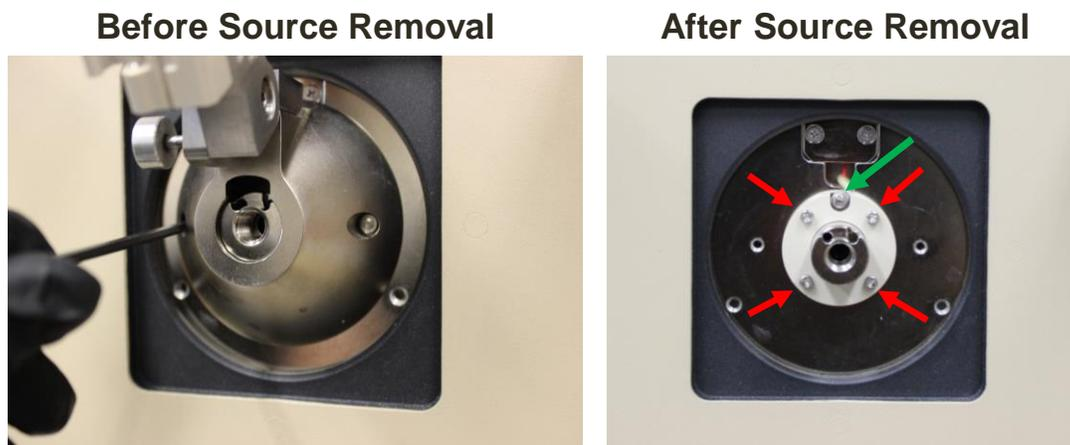

Figure 1.19 – Source Removal
6. Using a 7/64 in. Allen wrench, completely unscrew the bolts located on the left and right side of the interface and carefully remove the entire ESI/DESI source assembly (Figure 1.19).
7. After the ESI/DESI source has been removed, use a 3/32 in. Allen wrench to remove the bolt that secures the small red voltage wire, as depicted above by the green arrow (Figure 1.19).
8. Use the same wrench to remove the bolts that are arranged around the inlet of the AI-MS, as depicted above by the red arrows (Figure 1.19).
9. Once the four screws are removed, remove the inlet, (Figure 1.19 and 1.20).